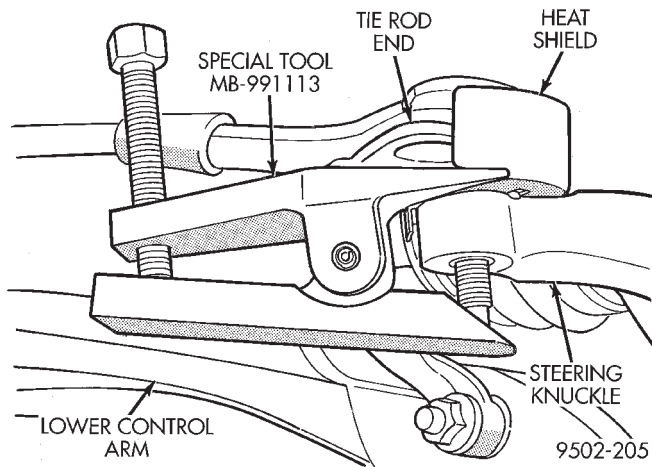

Fig. 45 Tie Rod End Removal From Steering Knuckle
(10) Remove the tie rod end from the steering knuckle using Remover, Special Tool MB-991113 (Fig. 45).